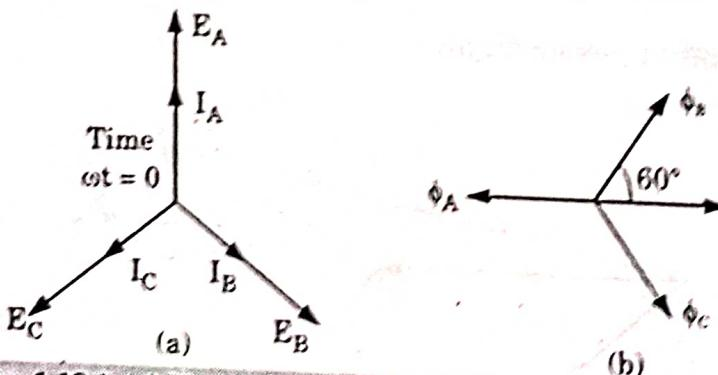

Fig. 1.12.1. (a) Phasor diagram (b) Positive directions of fluxes.
- Suppose that the alternator is supplying current at unity power factor. The phase currents  $I_A$ ,  $I_B$  and  $I_C$  will be in phase with their respective generated voltage  $E_A$ ,  $E_B$  and  $E_C$  as shown in Fig. 1.12.1(a).
- The positive directions of fluxes  $\phi_A$ ,  $\phi_B$  and  $\phi_C$  are shown in the space diagram of Fig. 1.12.1(b).